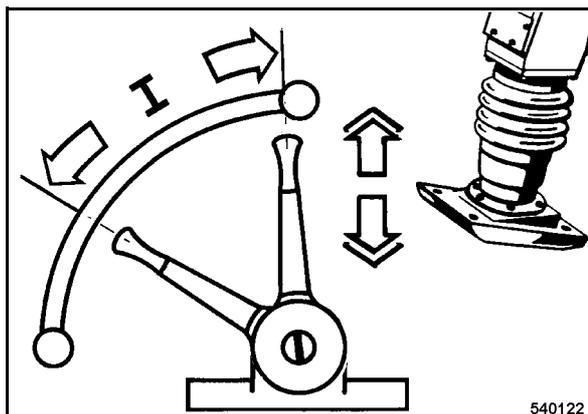

Fig. 21
- To achieve uniform running you should actuate the throttle lever within range "I" (Fig. 21), depending on condition and density of soil.